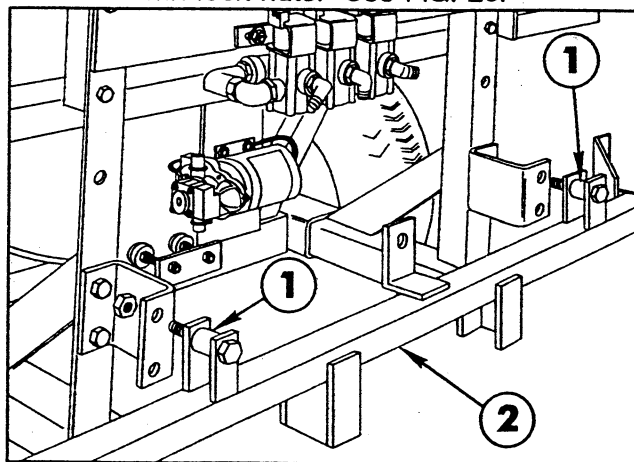

FIG. 20
5. Attach the two "U"-shaped Boom Mounting Brackets to the bottom of the Boom Mount uprights with four (4) 1/2" x 1-1/4" cap screws, and lock nuts.
6. Position a Spacer Tube between the lugs on each side of the Main Frame tube. Insert a 1/2" x 2-1/2" cap screw through the lugs and spacers. Secure the Main Frame to the Boom Mounting Brackets with lock nuts. See FIG. 20.